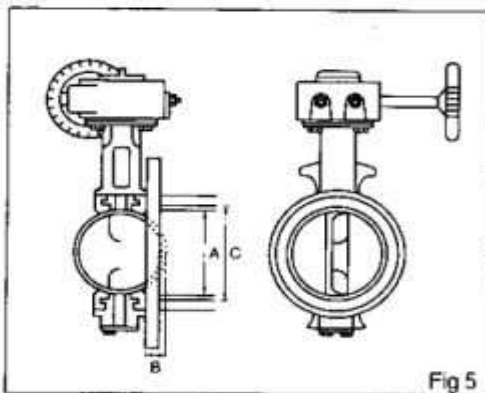

Fig 5
- **Check piping sizes :** Check the valve sizes fit the piping sizes. (Fig 5)